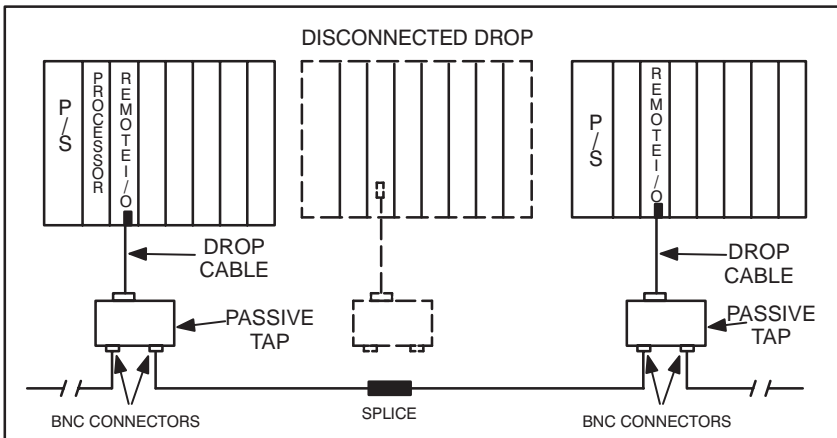

Figure 3.29 - Disconnecting an Intermediate Rack Drop from the Remote I/O Network (Coax)
- Step 3. To disconnect a drop along the cable route, refer to figure 3.29 and use the following procedure: